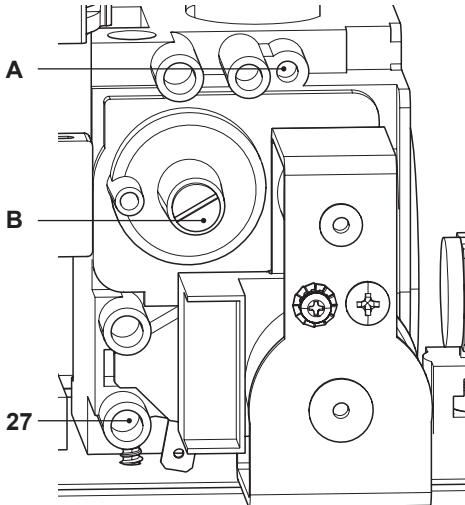

Fig. 7.9
- When the boiler is switched off (out of order), check the supply pressure by using the 27 point in Fig. 7.9 and compare the value read with that reported on the Gas supply pressure table in the "Technical Data" section (pag. 22 Advance Plus 16S ERP, pag. 25 Advance Plus 25S ERP and pag. 28 Advance Plus 30S ERP).
- Close well the pressure point 27 in Fig. 7.9.